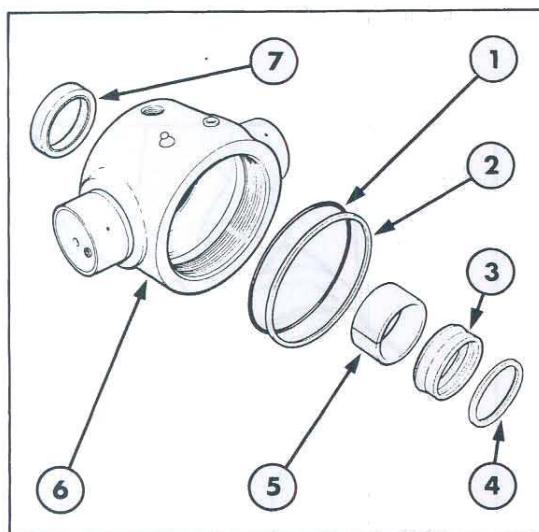

Figure 38
8. Remove the buffer seal, rod seal and bearing sleeve from the headstock/gland, Figure 38. Note the orientation of the small groove in the buffer seal.